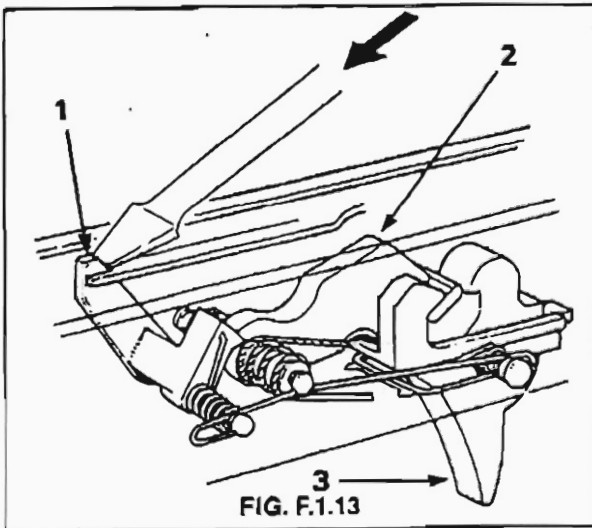

FIG. F.1.13
13. Position the change lever to either the 'A' (Automatic) or 'R' Repeat (Rounds) position. Apply sufficient pressure with a suitable tool, to the top of the disconnecter to enable it to disconnect from the hammer then squeeze the trigger taking care to keep fingers clear of the hammer as it strikes forward. See Fig. F.1.13.